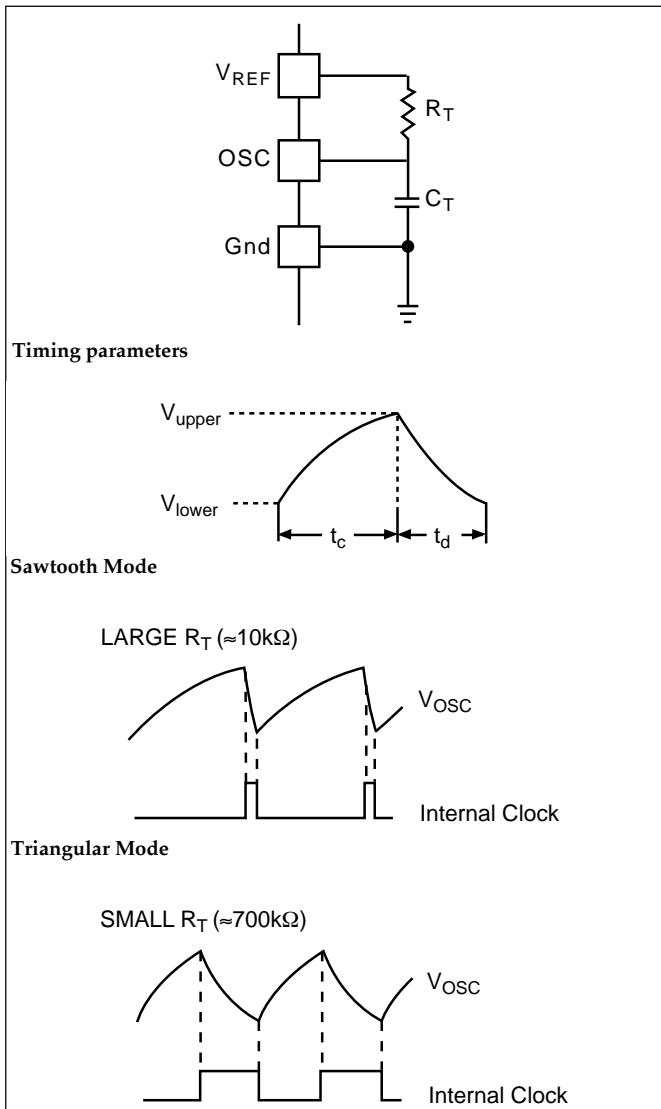

Figure 3: Oscillator Timing Network and parameters
**Electrical Characteristics:** d -40°C ≤ TA ≤ 85°C RT=680kΩ, CT=0.022μF for triangular mode, VCC=15V (Note 1), RT=10kΩ, CT=3.3nF for sawtooth mode (See Fig. 3), unless otherwise stated.